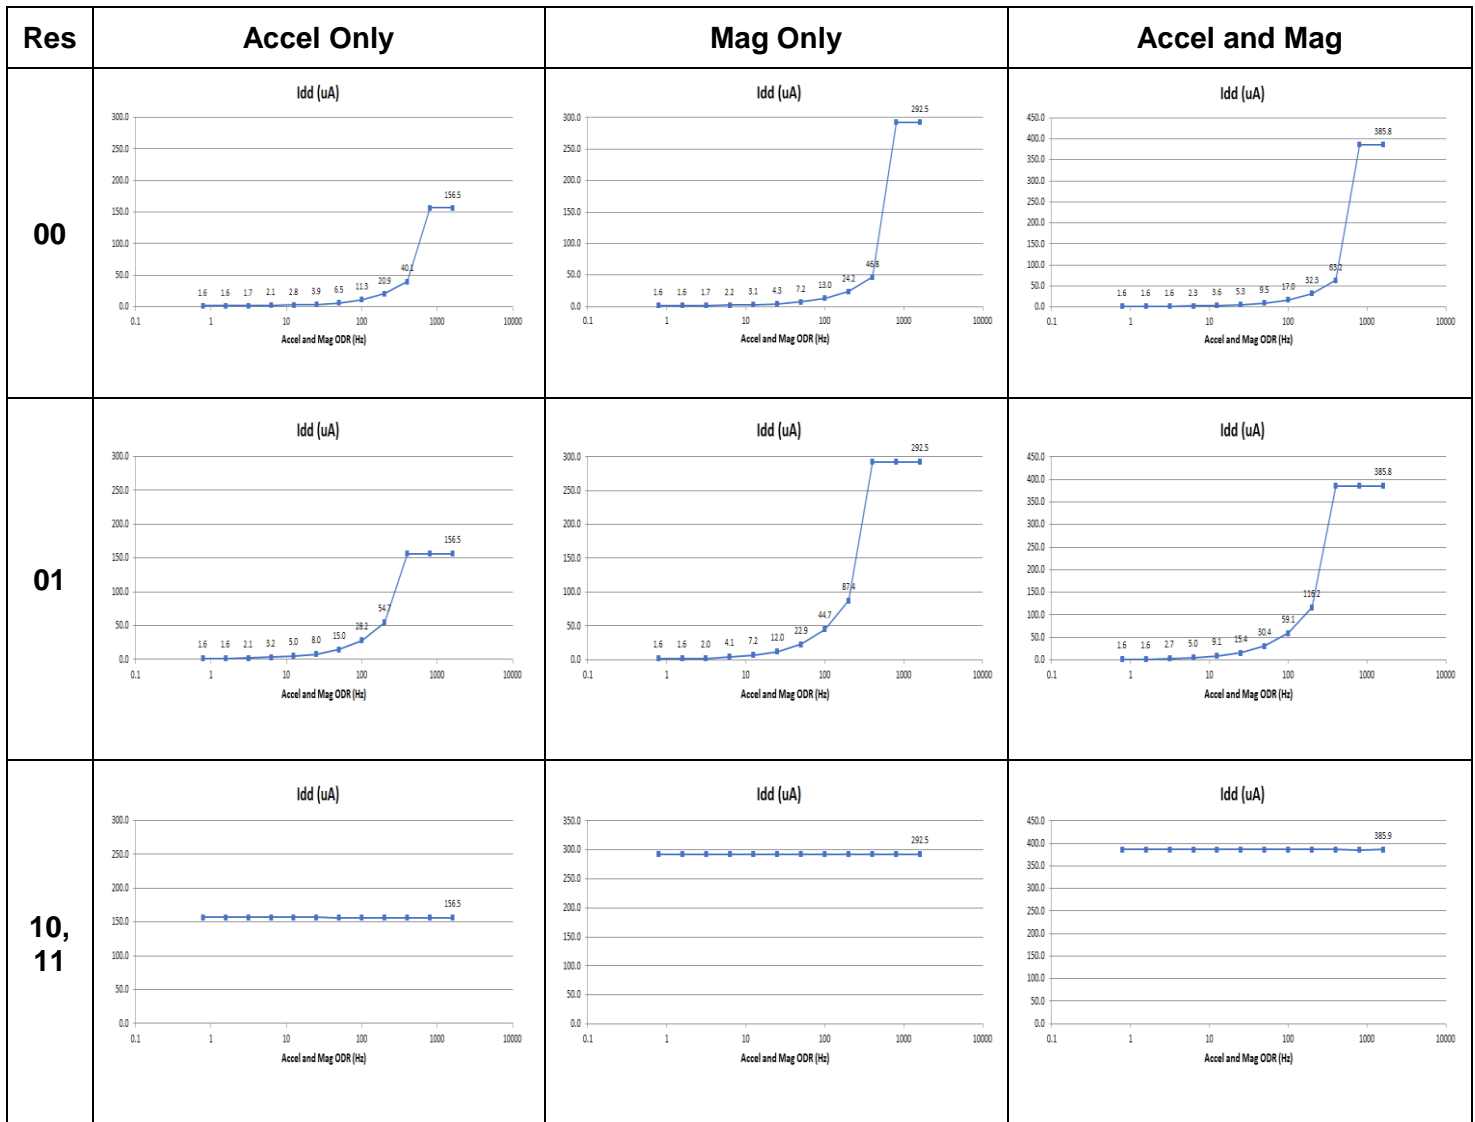

Figure 2: Current Consumption Diagram
1. See Figure 2 for other modes (RES = 00 or 01)